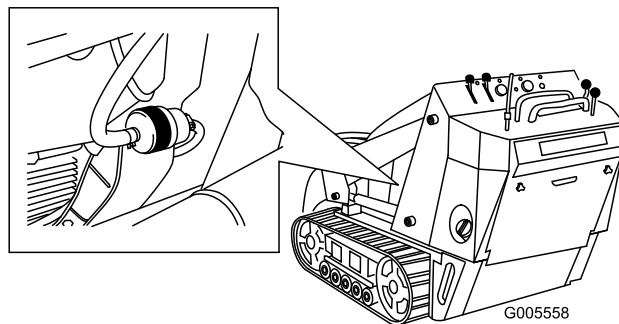

Figure 35
4. Clamp the fuel lines on both sides of the fuel filter (Figure 35).
5. Squeeze the ends of the hose clamps together and slide them away from the filter (Figure 35).